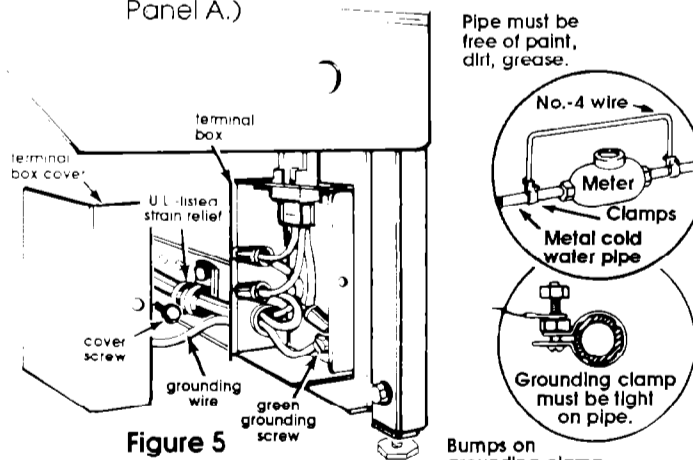

Figure 5
If the recommended grounding method is impossible — connect a separate, grounding wire (No. 16 minimum) to the green, grounding screw inside the terminal box. Connect the other end of the separate grounding wire to a grounded, metal cold water pipe. (See Figure 5.)
* Grounded, cold water pipe must have metal continuity to electrical ground and not be interrupted by plastic, rubber or other insulating connectors such as hoses, fittings, washers or gaskets (including water meter or pump). Any insulating electrical connector should be jumped, as shown, with a length of No.-4 copper wire securely clamped to bare metal at both ends. (See Figure 5.)
2. For added personal safety, use a separate grounding wire. Remove terminal box cover. Feed grounding wire through the hole in the terminal box where the power cord enters. Connect the separate grounding wire to the green, grounding screw inside the terminal box. Connect the other end of the separate grounding wire to a grounded, metal cold water pipe*. (See Figure 5.)